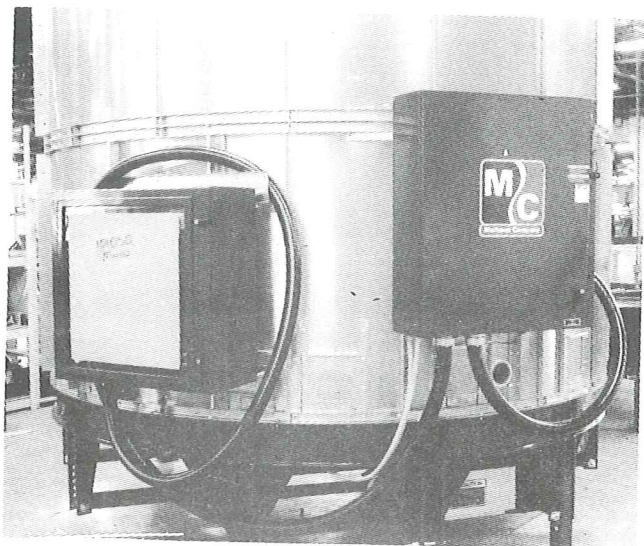

Figure 29 - Remote Cabinet Mounted for Transport Only (101050 shown)
1. Loosen 5/16" locknuts holding Remote Cabinet to Shipping Brackets bolted to Crawl Door Frame for shipment. See Figure 29.